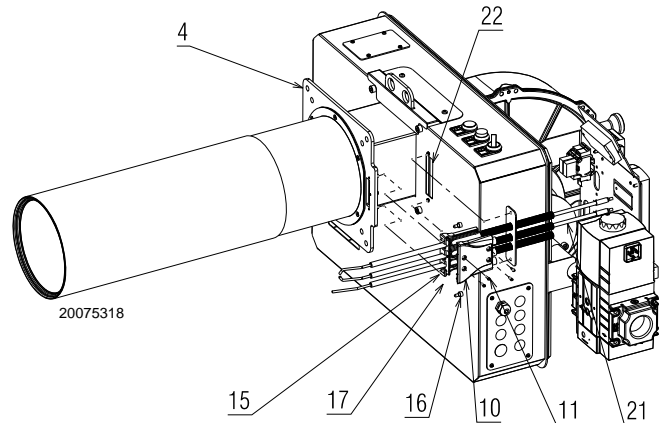
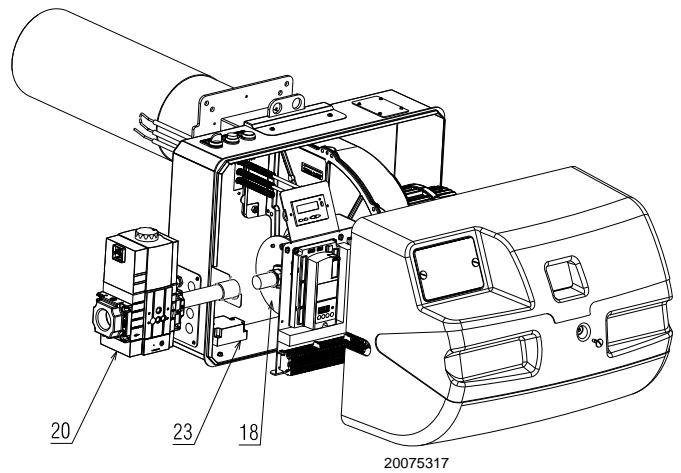

Fig. 15
Fig. 16
For the installation of the electrodes proceed as follows (Fig. 15) - (Fig. 16):
- Fix the flange 4)(Fig. 15) to the boiler plate and tighten the nuts 4). During this operation, take care not to touch the electrode unit.